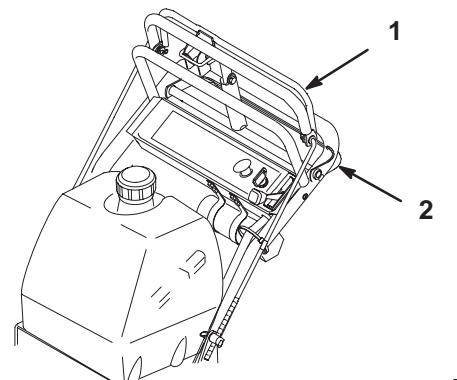

Figure 17
3. Slowly press on the upper control bar to move forward (Fig. 17).
To go straight, apply equal pressure to both ends of the upper control bar (Fig. 17).
To turn, release pressure on the upper control bar side away from the direction you want to turn (Fig. 17).
- Slowly squeeze the lower control bar and handle together to move rearward (Fig. 17).